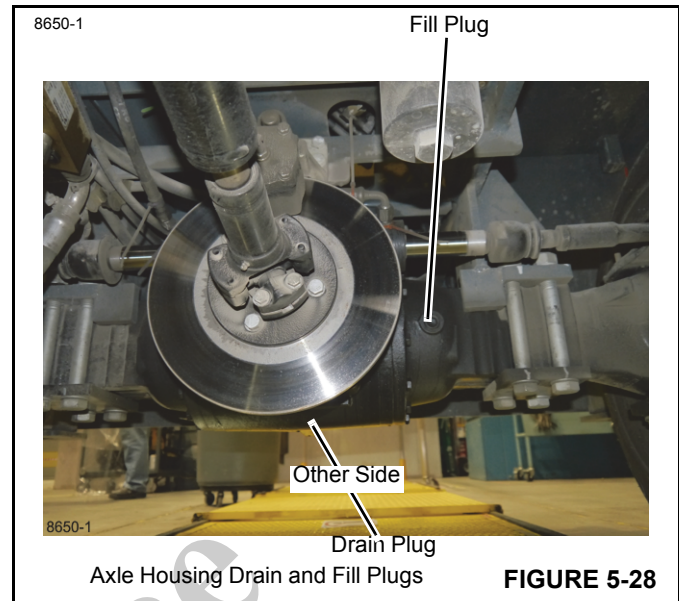

FIGURE 5-28
1. Clean around the fill plug in the axle housing (Figure 5-28). Remove the plug.